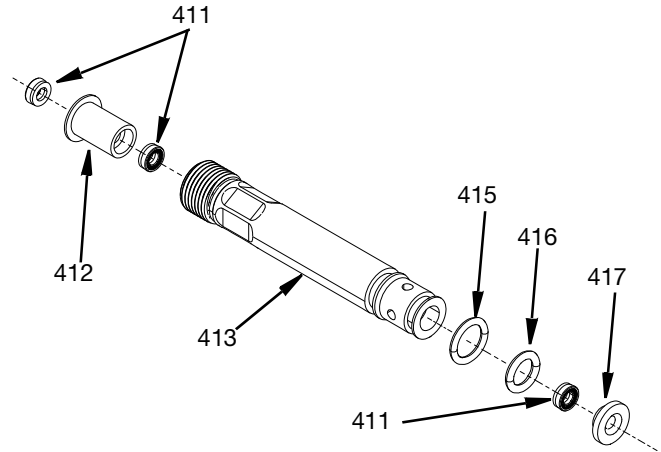

FIG. 30
1. Install O-rings (415) and then split ring seals (416) onto the short bearing seal guide (413) and the long bearing seal guide (414).
2. Install one needle packing seal (411) into the short and long bearing seal guides (413 and 414) O-ring end. Open spring side of needle packing seals need to face outwards.
3. Press the lower bearing (417) into the O-ring end of the short and long bearing seal guides (413 and 414).
4. Insert two needle packing seals (411) into each upper bearing (412). Open spring side of needle packing seals need to face outwards on either side of the upper bearing. Insert this assembly into the threaded end of the bearing seal guides (413 and 414). See FIG. 30.
**NOTE:** FIG. 30 shows a short seal bearing guide (413) however both long and short guides are assembled the same.